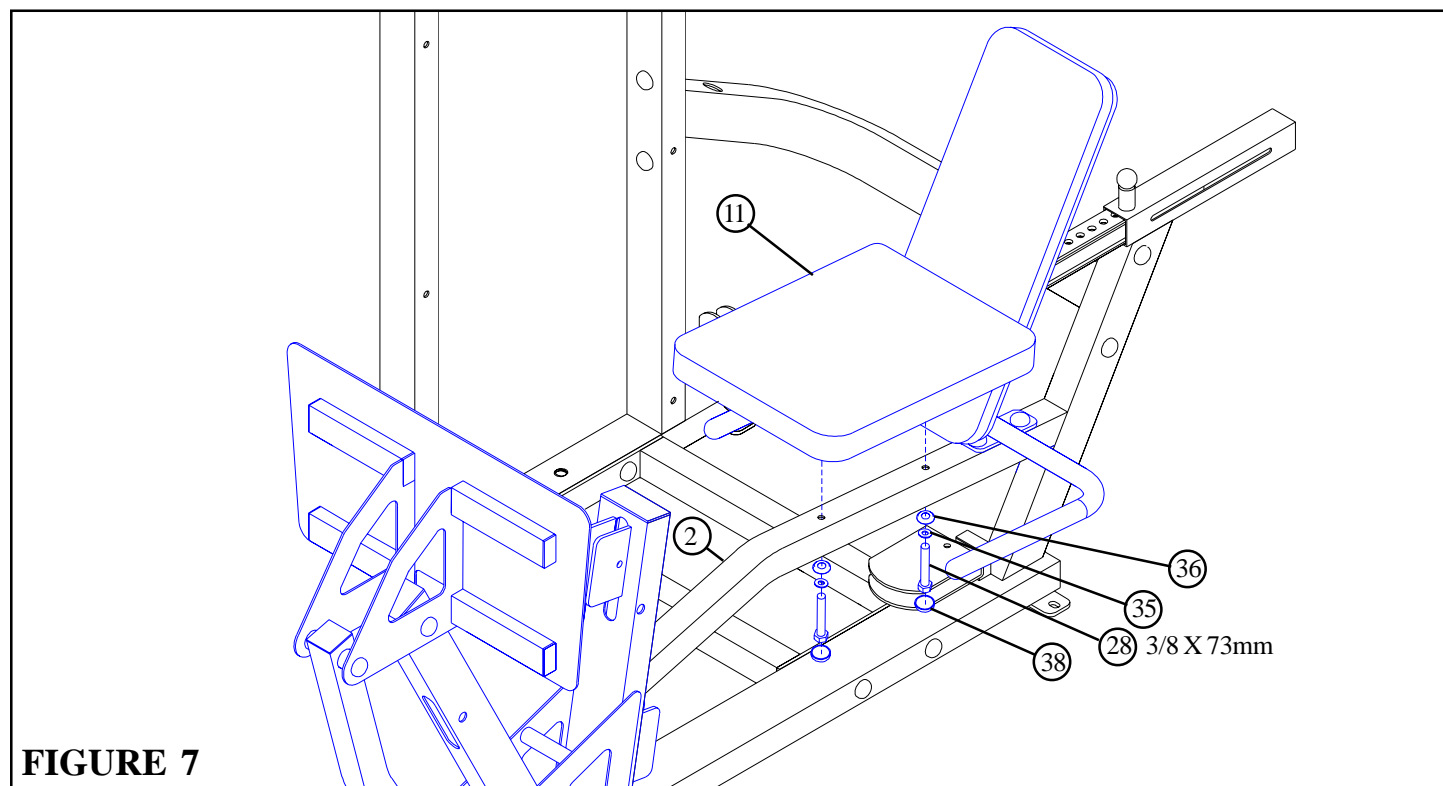

FIGURE 7
- **SECURELY** assemble the SEAT PAD (11) to the LEG PRESS FRAME (2) using two RH CAPS (38), two 3/8 X 73mm BOLTS (28), two 3/8" SAE WASHERS (35) and two 3/8" RH WASHERS (36) as shown in FIGURE 7.